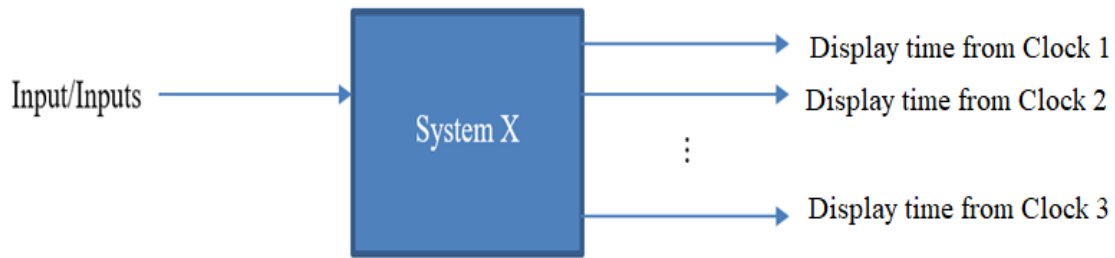

Figure 1
- **Exemplify** a control unit circuit that can select and display the time from only ONE timer at a time, out of the integrated timer circuit, as illustrated in Figure 1.